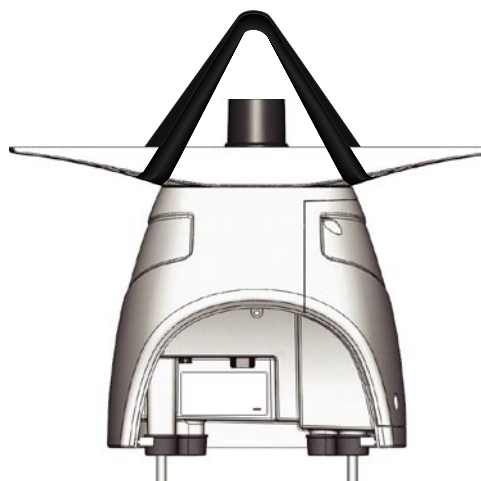

Figure 5
2. Hoist the scanner into position using the supplied strap. Position the strap over the ends of the antenna mount as shown in Figure 5. Make sure that the strap is positioned as close to the scanner as possible.